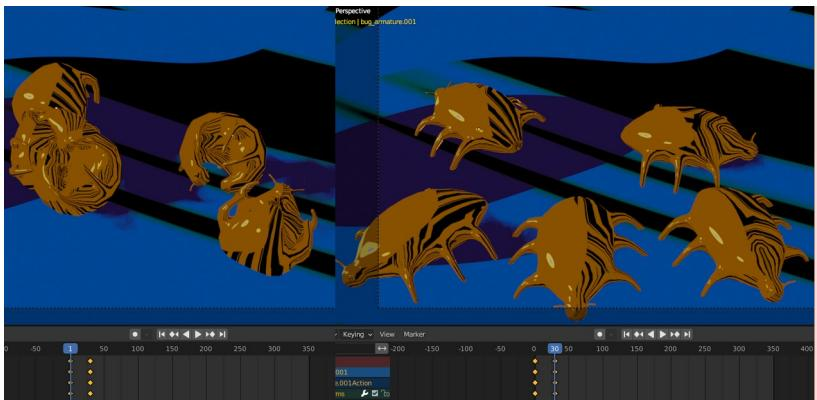

Figure 13-7 Keyframes for curled and uncurled locations and rotations.
7. Append the material named comic from the blend file you worked on at the start of this chapter. You could also append two LineArt objects but there are several modifications needed so it simpler to create two new Grease Pencil objects as described below. Select each bug mesh and set the material to the appended comic. For the bowl and the heavy ball, also select the comic material but then click on the overlapping squares button just to the right, to create a new material for each object. You can now change the base color, roughness, metallic and other properties of these two objects. I used a magic texture for the base color of the bowl but set the cell input color as blue, as you can see in Figure13-7.
- You need to add keyframes for the location and rotation of each bug armature at frame 1 as it is now, and at frame 30 rotated onto its stomach, disentangled from any adjacent bugs and pointing outwards from the group. The two keyframes are shown in Figure 13-7.